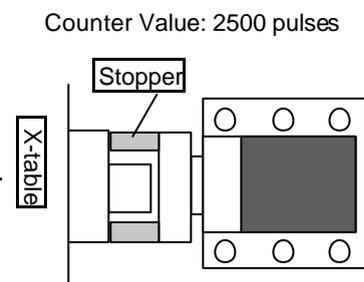

Figure 1
3. Push the X-axis against the + mechanical stopper. (right stopper facing machine) Fig. 1.